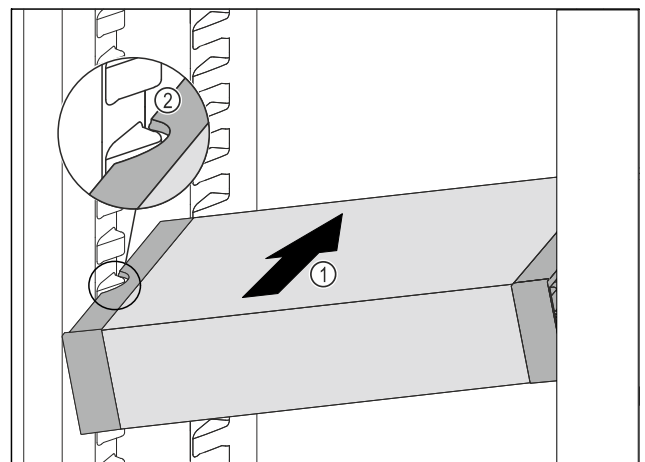

Fig. 135
- ▶ Insert the VarioSafe into the refrigerator compartment at an angle Fig. 135 (1) until the recesses in the side Fig. 135 (2) of the VarioSafe are at the level of the support rib in the refrigerator compartment.